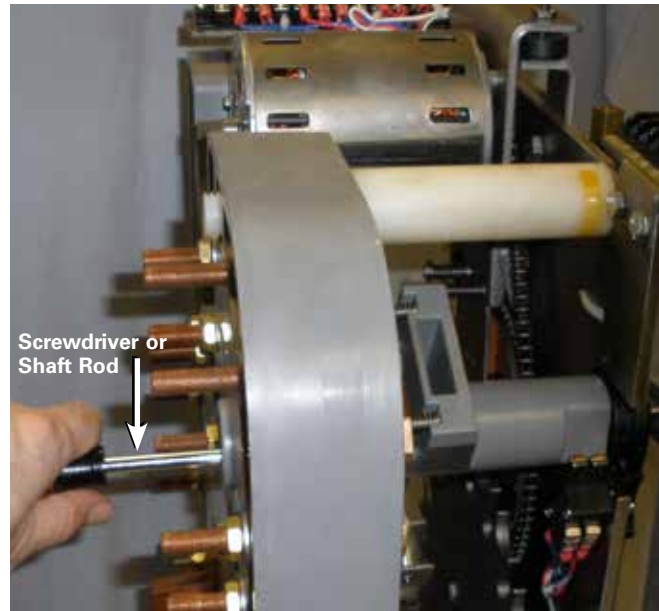

**Figure 18. Reversing segment gear shaft.**
- If not present on the threads, apply Loctite® 243™ Threadlocker to the two 1/4-28 bolts. Using the bolts and a 7/16" wrench, fasten the reversing movable bushing to the front of the tap-changer. Tighten the bolts to a torque of 30–40 in-lbs (3.4–4.5 Nm). See Figure 18.